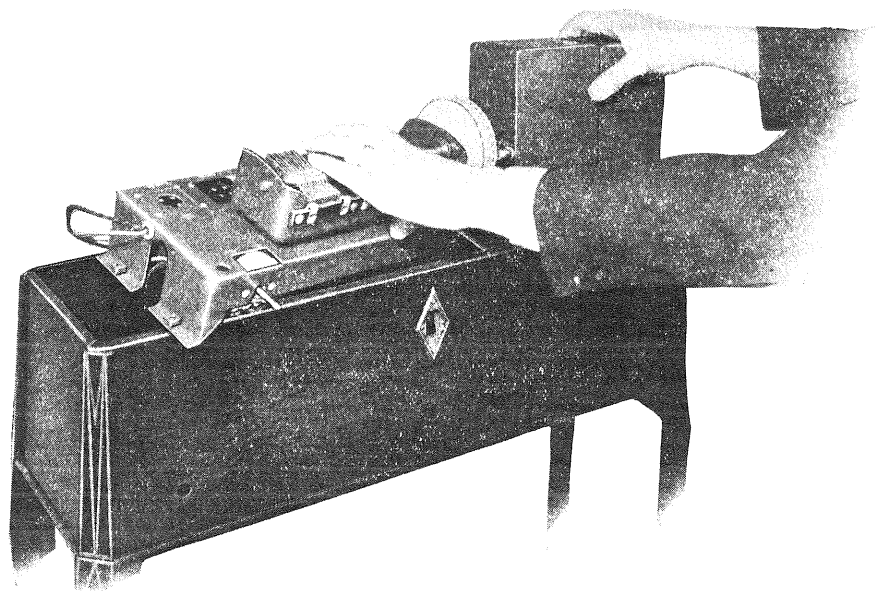

Figure 11—Removing receiver chassis and socket power unit from cabinet in one operation.
(1) REMOVING THE RECEIVER AND S. P. U. CHASSIS FROM THE CABINET
- (g) Grasping the receiver assembly by the tuning condenser assembly, and the S.P.U. by the filter reactor, lift the two assemblies clear of the cabinet. (See Figure 11.)
(2) REPLACING THE RADIO FREQUENCY COILS